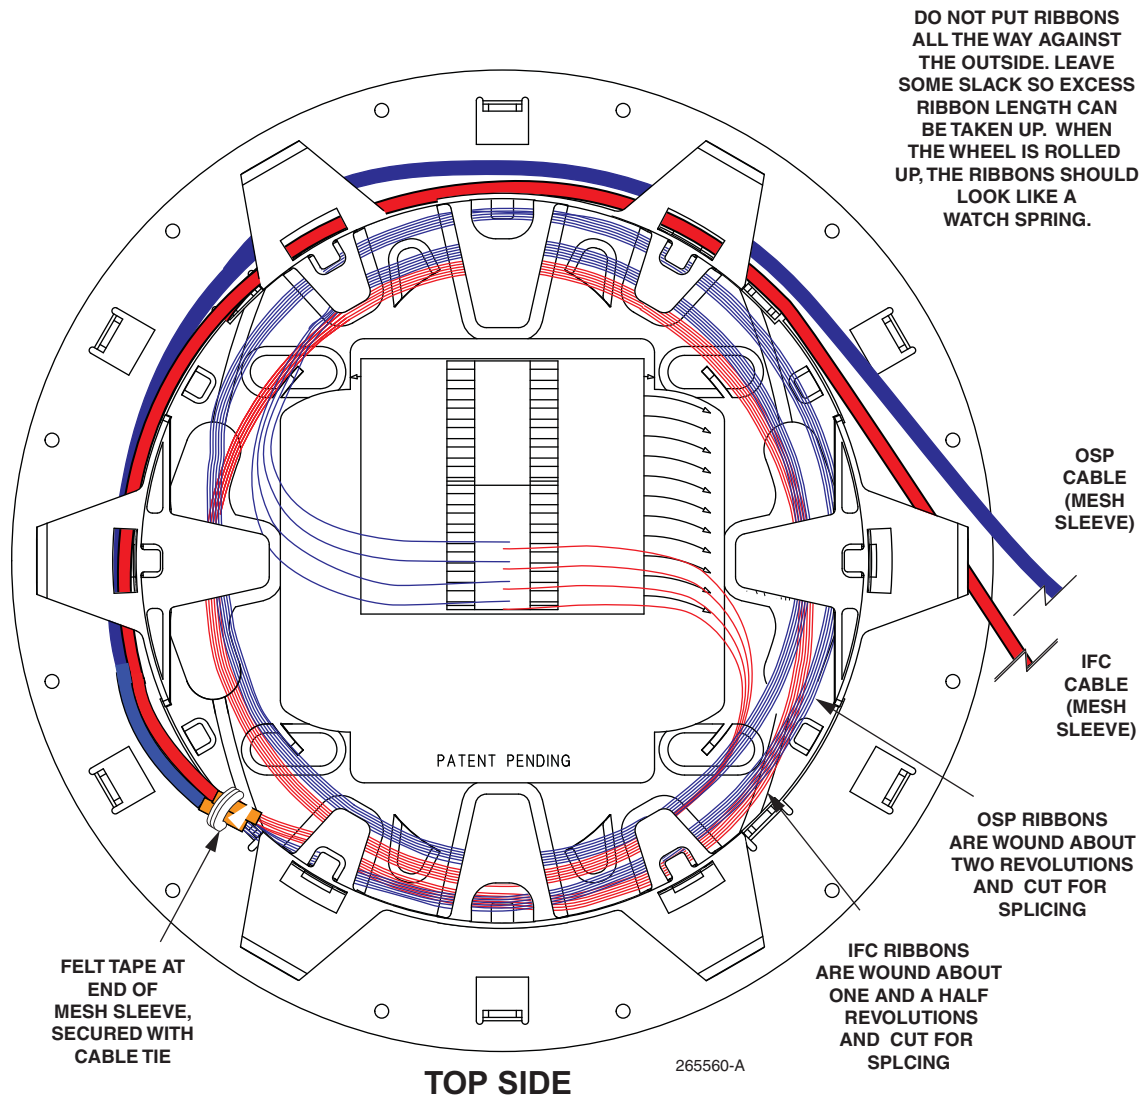

Figure 25. Counter-Clockwise Roll-up (4 Stacked Traditional Ribbons Matrix per Tube)
2. Prepare and splice fibers. Splice all fibers first before placing finished splices into splice chip. Bundle all ribbons at the sleeve/ribbon junction point and carefully route bundle around the inside of splice tray. Place splices into splice chip in using the center most tray locations. See Figure 25.